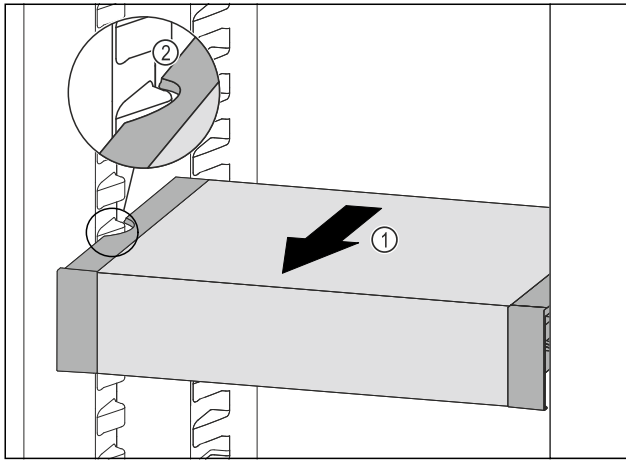

Fig. 65
- ▶ Pull VarioSafe forwards Fig. 65 (1) until the recesses in the side of the VarioSafe are at the level of the support rib in the fridge section. Fig. 65 (2)